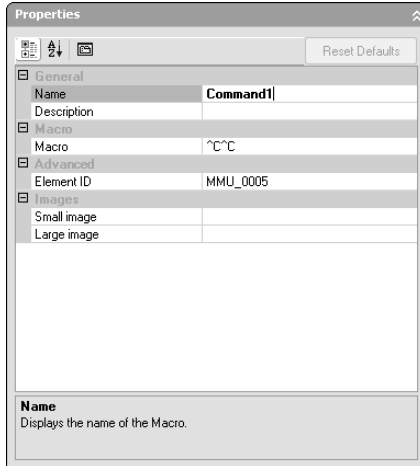

Figure 29-7: You define a toolbar button in the Properties pane of the Customize User Interface dialog box.
2. In the Command List pane, click the New button. The Properties pane shows the properties of the new toolbar button, as shown in Figure 29-7.